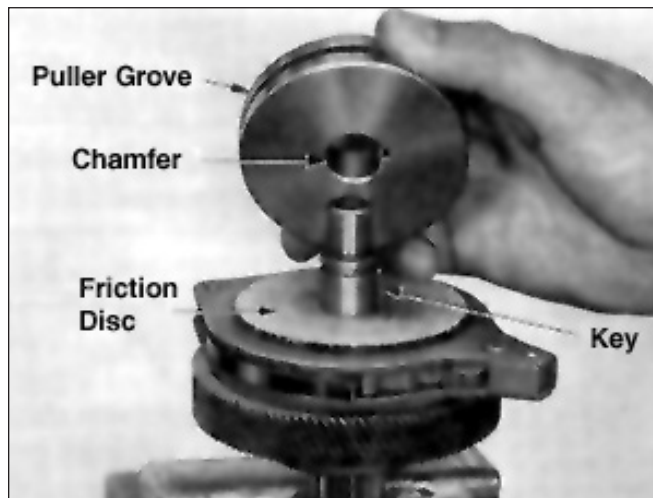

Figure 5-7. View Showing Load Brake Flange Removed
2. Using a puller tool, remove brake flange from shaft. A groove is provided around outer diameter for this purpose. See Figure 5-7. Remove key from shaft and lift off 2 friction discs, and the pawl and ratchet assembly (Figure 5-8).
3. When installing brake flange, position it with chamfer facing friction disc (Figure 5-7).